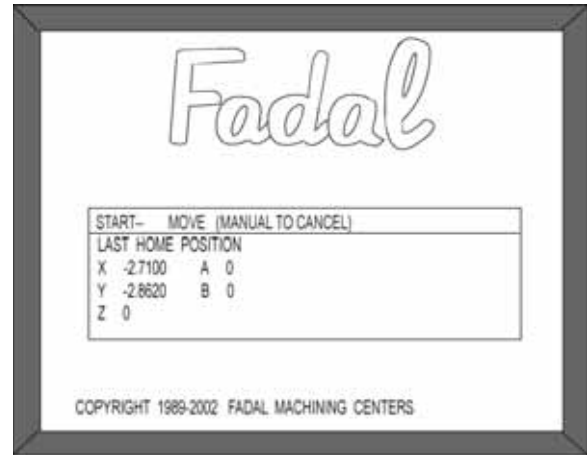

Figure 1-10: Last Home Position screen.
2. Cold start is complete when the LAST HOME POSITION screen is displayed (See Figure 1-10).